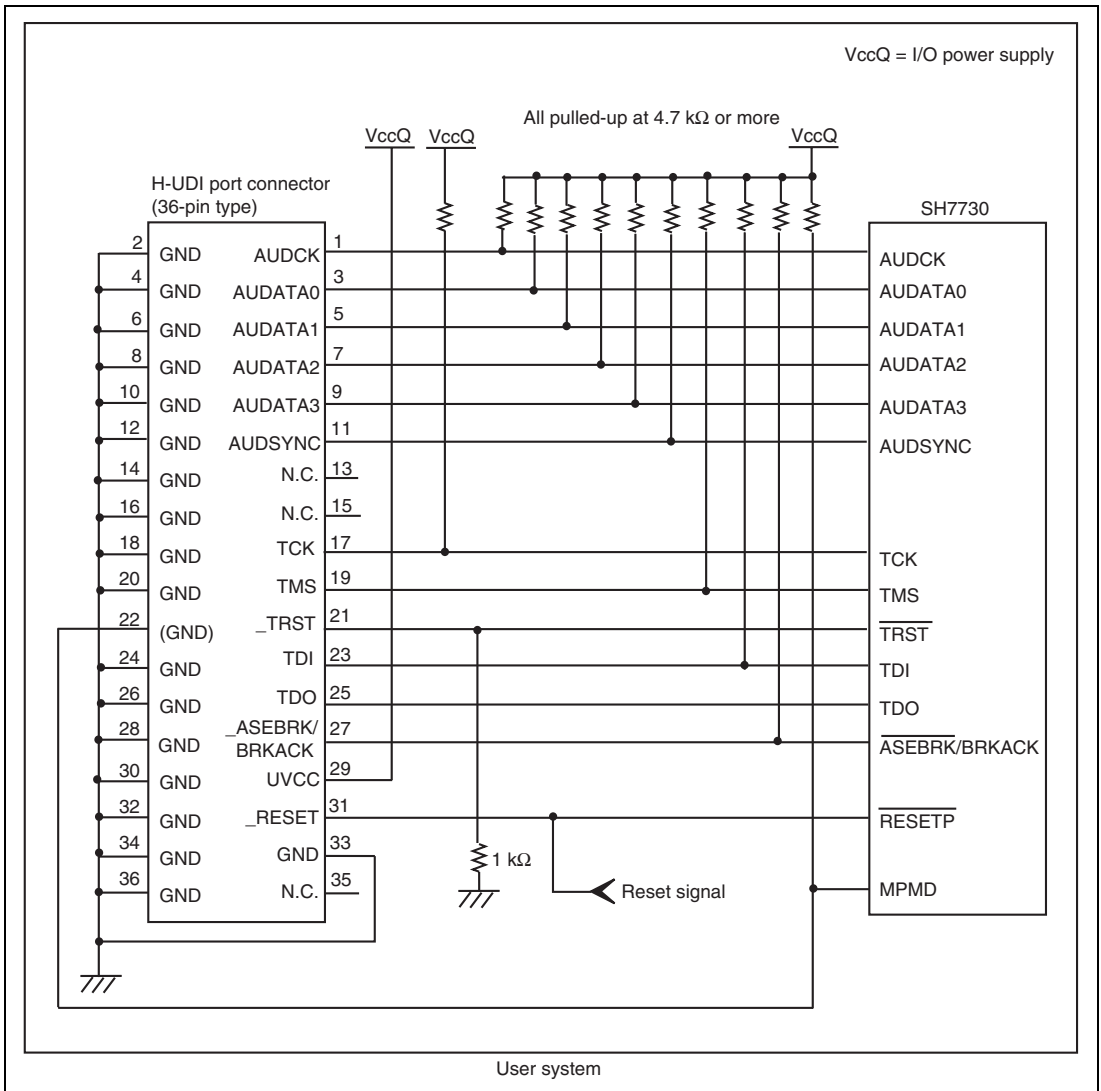

Figure 1.5 Recommended Circuit for Connection between the H-UDI Port Connector and MPU when the Emulator is in Use (36-Pin Type)
Figure 1.5 shows a recommended circuit for connection between the H-UDI and AUD port connectors (36 pins) and the MPU when the emulator is in use.
- (1) When the emulator is used: $MPMD = 0$
- (2) When the emulator is not used: $MPMD = 1$Figure 1.5 shows an example of circuits that allow the MPMD pin to be GND (0) whenever the emulator is connected by using the user system interface cable. When the MPMD pin is changed by switches, etc., ground pin 22. Do not connect this pin to the MPMD pin.
7. The resistance values shown in figure 1.5 are preliminary.
When the circuit is connected as shown in figure 1.5, the switches of the emulator are set as SW2 = 1 and SW3 = 1. For details, refer to section 3.8, Setting the DIP Switches, in the SuperH™ Family E10A-USB Emulator User's Manual.